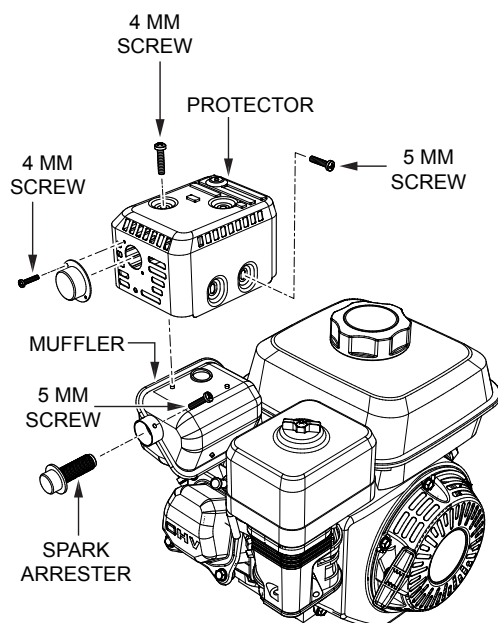

Figure 36. Spark Arrester Removal
1. Remove the 4 mm screw (3) from the exhaust deflector, then remove the deflector. See (Figure 36).
2. Remove the 5 mm screw (4) from the muffler protector, then remove the muffler protector.